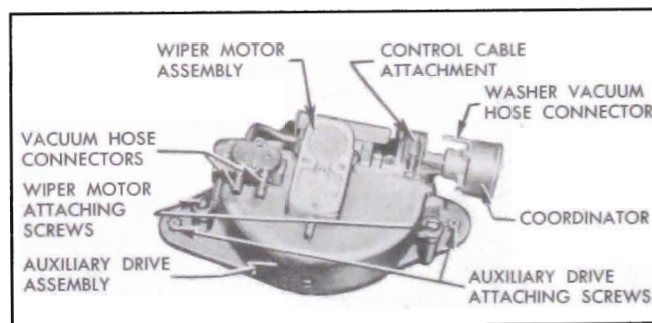

Figure 13-178—Windshield Wiper Motor
taching screws with washers and disengage motor from auxiliary drive assembly. See figure 13-178.
3. Disconnect wiper motor control cable at wiper motor and remove wiper motor. See figure 13-178.
4. Disconnect wiper motor from auxiliary drive by removing motor attaching screws. See figure 13-178.
5. Remove auxiliary drive to dash attaching screws. Carefully break seal between auxiliary drive and gasket on body and remove drive. See figure 13-178.
1. If necessary, cement new auxiliary drive gasket to body with weatherstrip cement and install auxiliary drive. See figure 13-178.
2. Install windshield wiper motor. See figure 13-178.